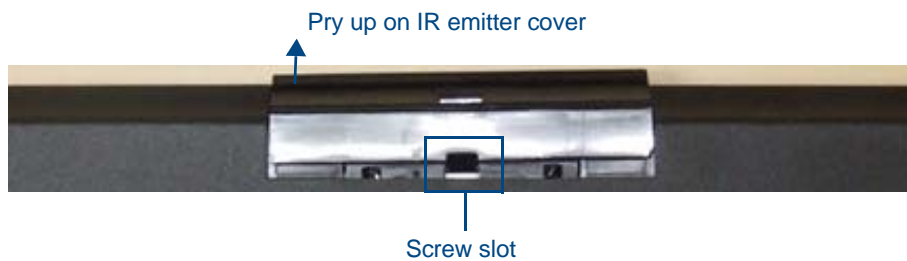

FIG. 121 IR emitter cover removal
2. Place the device face-down on a surface that will not scratch the unit and gently pry up the IR emitter cover. This will usually be easier to do from the left side of the cover (FIG. 121).